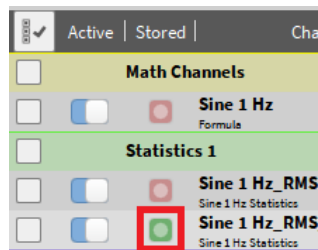

Figure 5-64: Recognition of offline created channels
- Channels that have been created offline can be recognized on the Green Record button in the Channel List (see Figure 5-64):